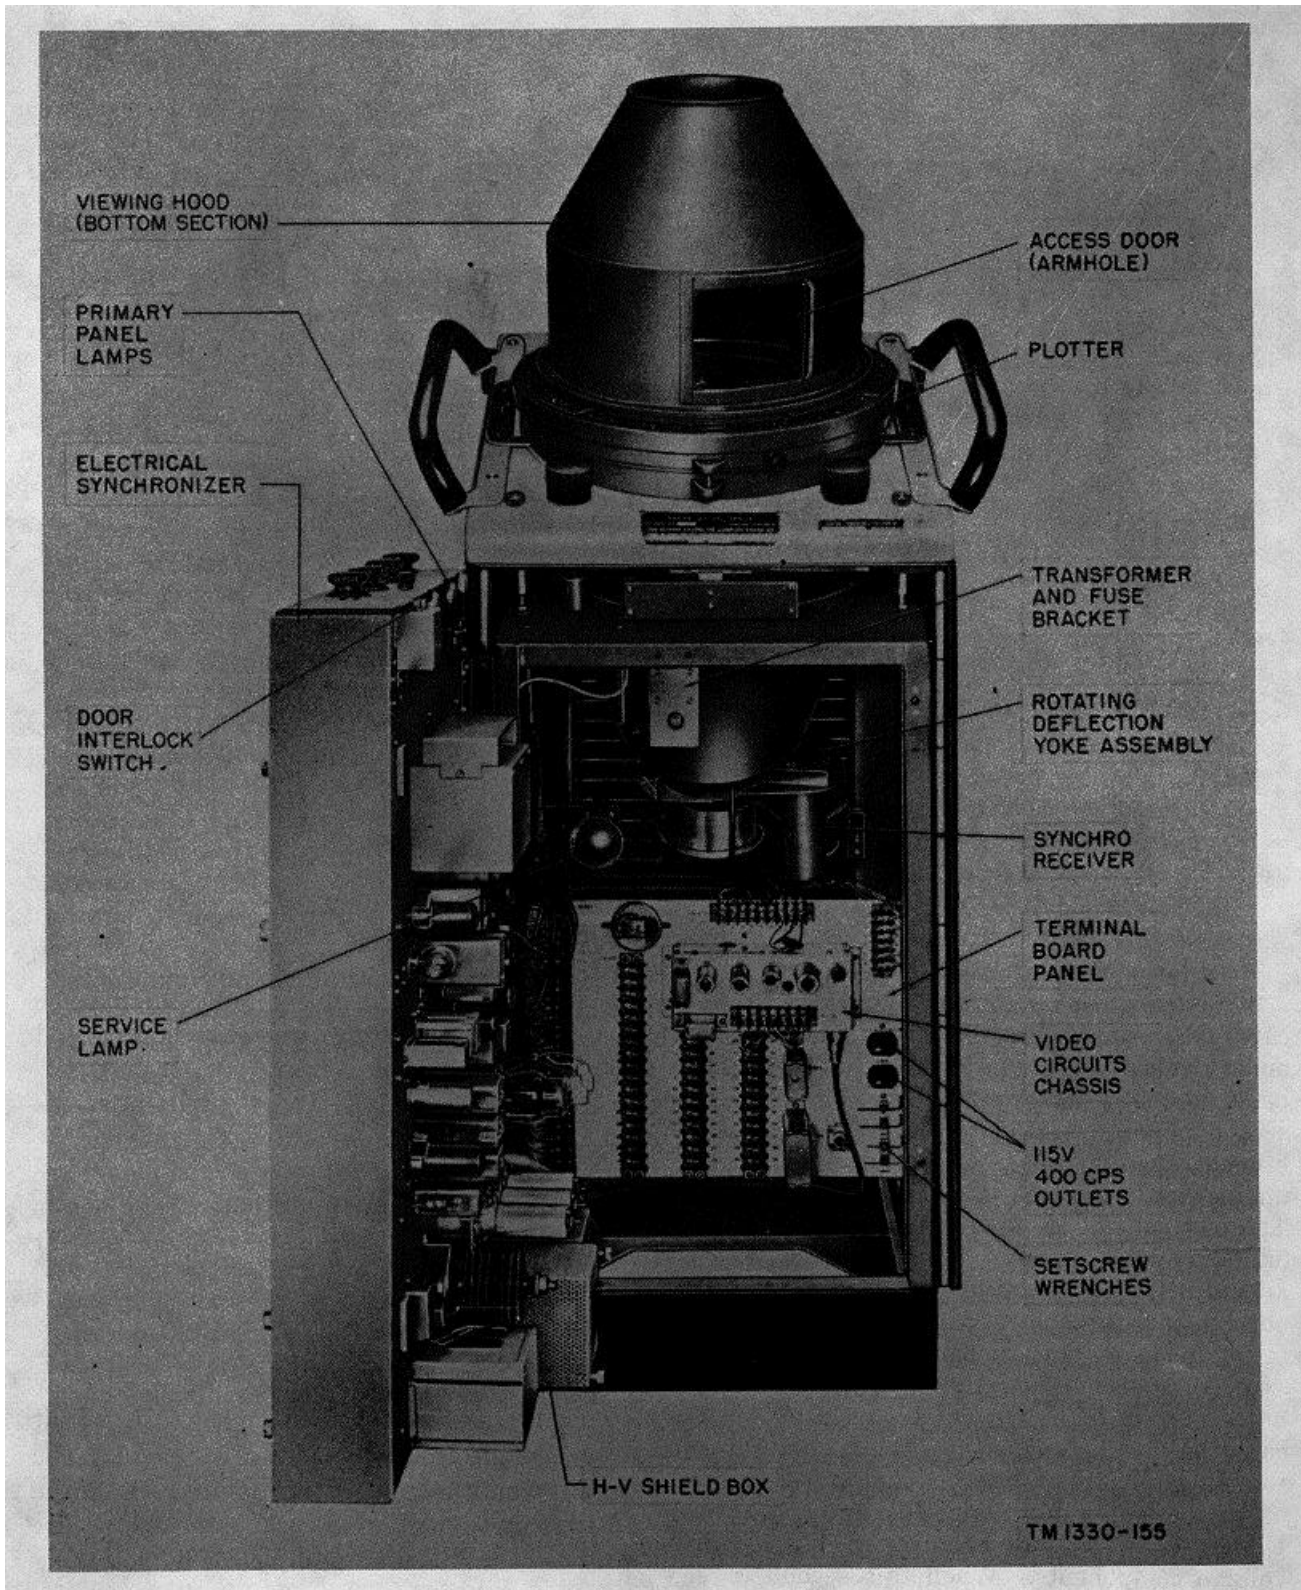

Figure 12. Control-Indicator C-1261/SPN-18, door open.
e. The entire front of the indicator may be opened by releasing the two recessed hex-head bolts and swinging it outward (fig. 12). Opening the door operates a protective interlock (the same interlock operated by raising the top). On the rear of the front door are mounted the indicator and high-voltage power supply components. The high-voltage tube at the bottom is inclosed in a shield box. Terminal boards and the video chassis are mounted on a vertical plate inside the cabinet. Two 115-volt, 400-cycle a-c outlets, special setscrew wrenches, and a relay under a transparent cover are also located on this rear plate. The cabinet contains a servicing lamp, next to the PPI rotating deflection yoke assembly. The yoke assembly can be seen better by removing the louvered rear cover. The sides of the indicator cabinet may also be removed to make servicing and repairs easier.